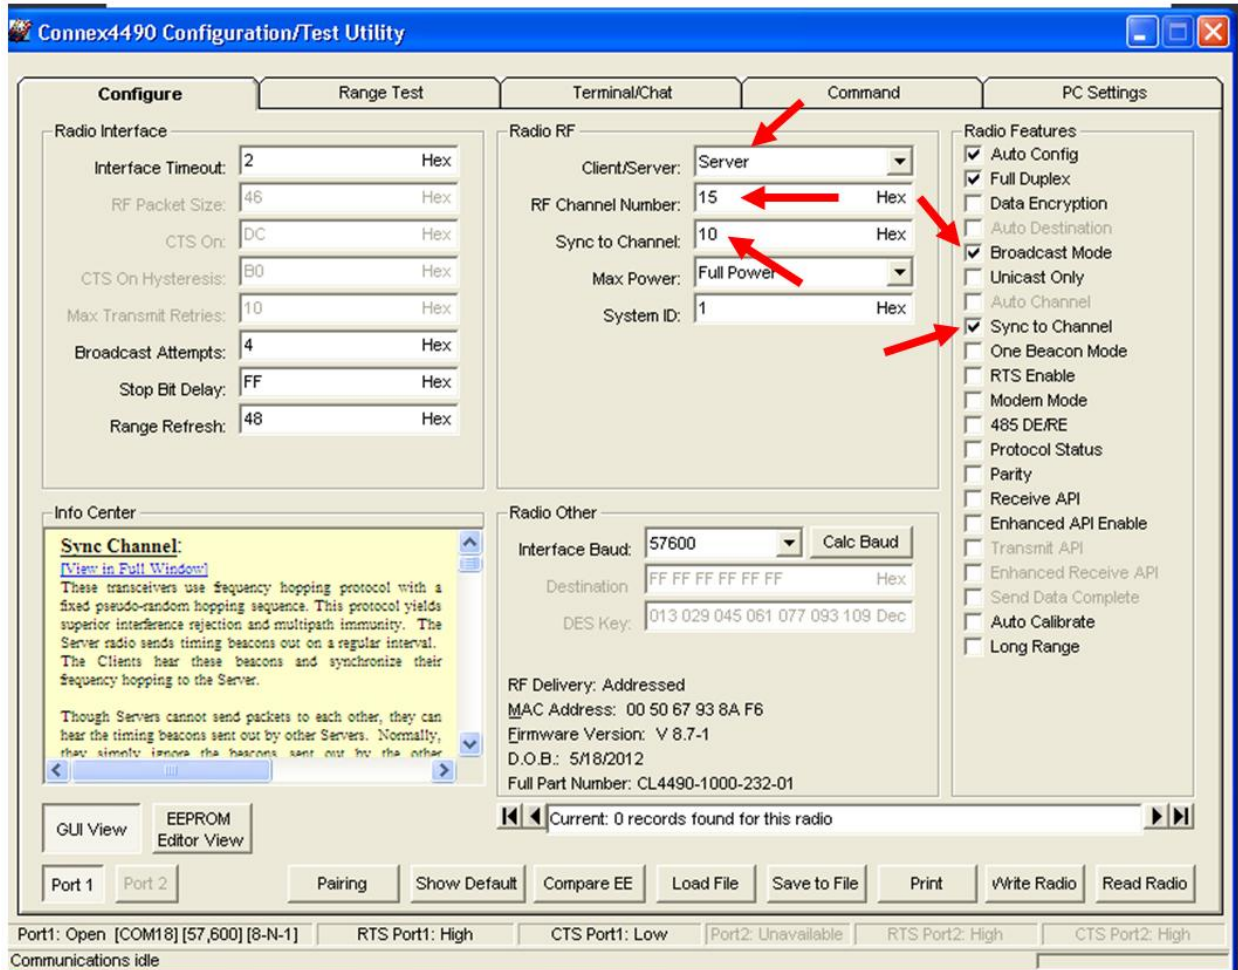

Figure 7: Server #2 settings
- Configure server #2 as *Server* and *Broadcast Mode* with an RF Channel Number at least 4-5 steps above the RF Channel Number of the Hop Master. Under the *Radio Features* section, check the **Sync to Channel** box and in the *Radio RF* section, set the Sync to Channel to the RF channel of the Hop Master (Figure 7). Click **Write Radio** to write the changes to the radio's EEPROM.